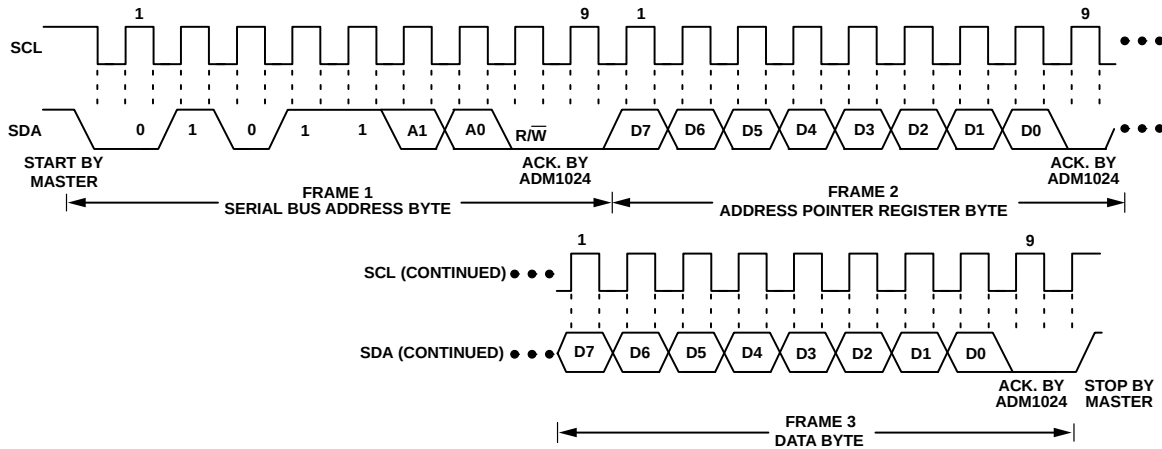
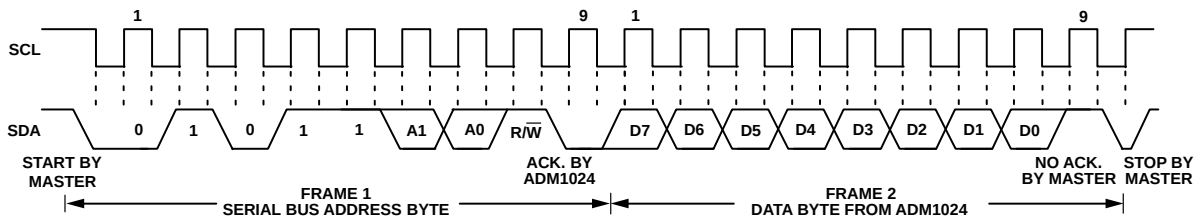

Figure 10. Writing a Register Address to the Address Pointer Register, then Writing Data to the Selected Register
Figure 12. Reading Data from a Previously Selected Register
To write data to one of the device data registers or read data from it, the Address Pointer Register must be set so that the correct data register is addressed, then data can be written into that register or read from it. The first byte of a write operation always contains an address that is stored in the Address Pointer Register. If data is to be written to the device, the write operation contains a second data byte that is written to the register selected by the Address Pointer Register. This is illustrated in Figure 10 The device address is sent over the bus followed by $R/\overline{W}$ set to 0. This is followed by two data bytes. The first data byte is the address of the internal data register to be written to, which is stored in the Address Pointer Register. The second data byte is the data to be written to the internal data register.
the serial bus address, $R/\overline{W}$ bit set to 1, followed by the data byte read from the data register. This is shown in Figure 12.
2. In Figure 10 to Figure 12, the serial bus address is shown as the default value 011011(A1)(A0), where A1 and A0 are set by the three-state ADD pin.